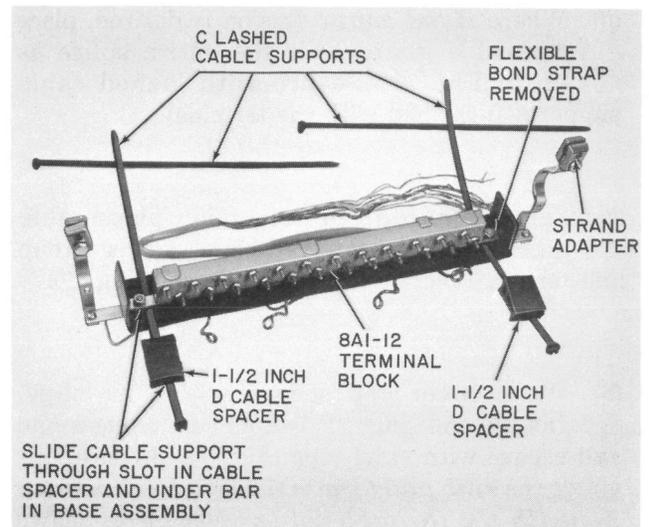

Fig. 3—Preparing 49C2 Cable Terminal for Installation of 1A1-1B1 Terminal Stub—8A1-12 Terminal Block
- (1) Remove flexible bond strap at base assembly (Fig. 3).
- (2) Install 8A1-12 terminal block (Fig. 3) (See 631-240-100).
- (3) Slide C lashed cable support through slot in 1 1/2 inch D cable spacer and under bar in base assembly (Fig. 3).